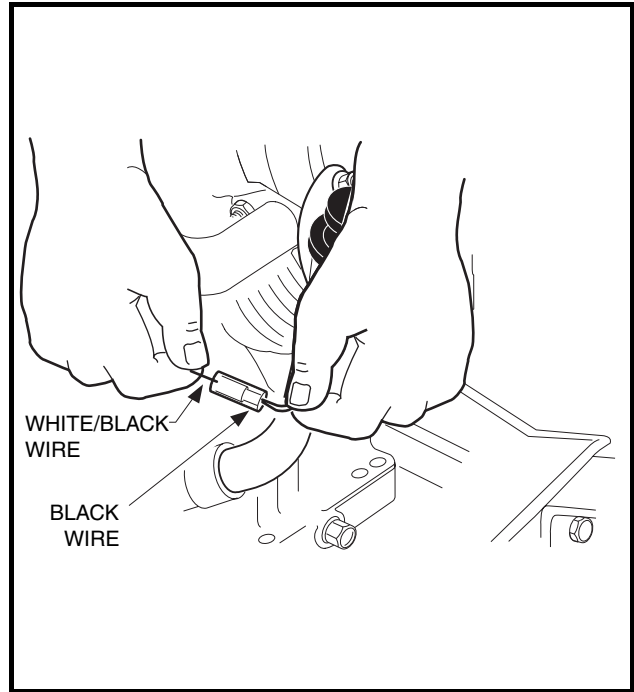

Figure 16-18 Ignition Kill Wire
- 4.10. Disconnect the engine kill switch wire (18-gauge white/black) from the bullet connector at the lower right front of the engine (**Figure 16-18, Page 16-9**).